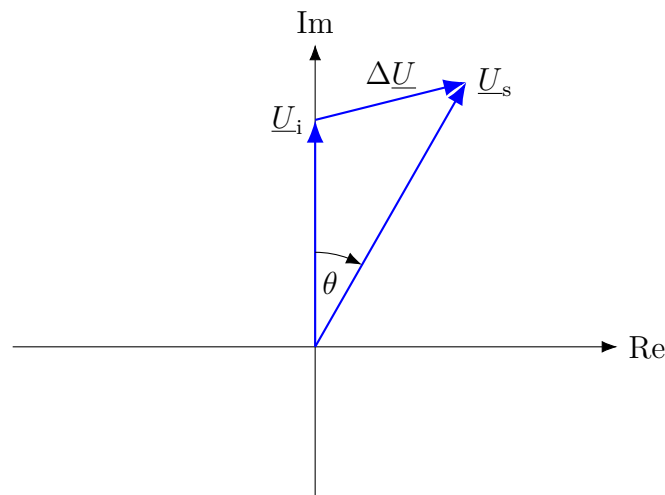

Fig. 3: Phasor diagram of a synchronous machine with scaling 1 kV = 1 cm and 1 kA = 1 cm.
A four-pole synchronous machine operates as a generator in a power plant and supplies 17 MW of active power to the power grid. The grid frequency is 50 Hz. The stator ohmic winding resistance of the synchronous machine is negligible and the excitation current is set to a constant value of 100 A. Fig. 3 shows the phasor diagram of the synchronous machine at a given operating point.
4.2 Determine the short-circuit current I_{sc} and add its phasor \underline{I}_{sc} to Fig. 3. [2 Points]
4.4 Determine the stator current I_s , the phase shift angle φ between stator current and voltage, and add the phasor \underline{I}_s to Fig. 3. [3 Points]